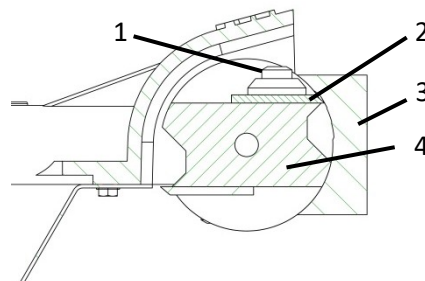

Fig. 15 Knife adjustment
- > Loosen the knife screw (1 - Fig.15).
- > Push the knife (2 – Fig.15) all the way back.
- > Place the knife gauge (3 – Fig.15) on the cylinder (4 – Fig.15) so that it rests on the two bearing surfaces of the cylinder at the top and bottom.